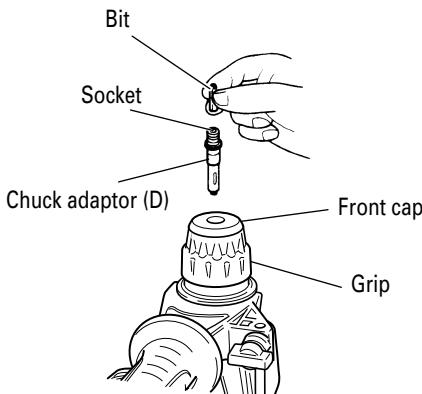

Fig. 19
- When driving machine screws (Fig. 19)
- Do not attempt to use the rotary hammer in the rotation and hammering function with the chuck adapter (D) and bit attached.
7. When driving wood screws (Fig. 19)